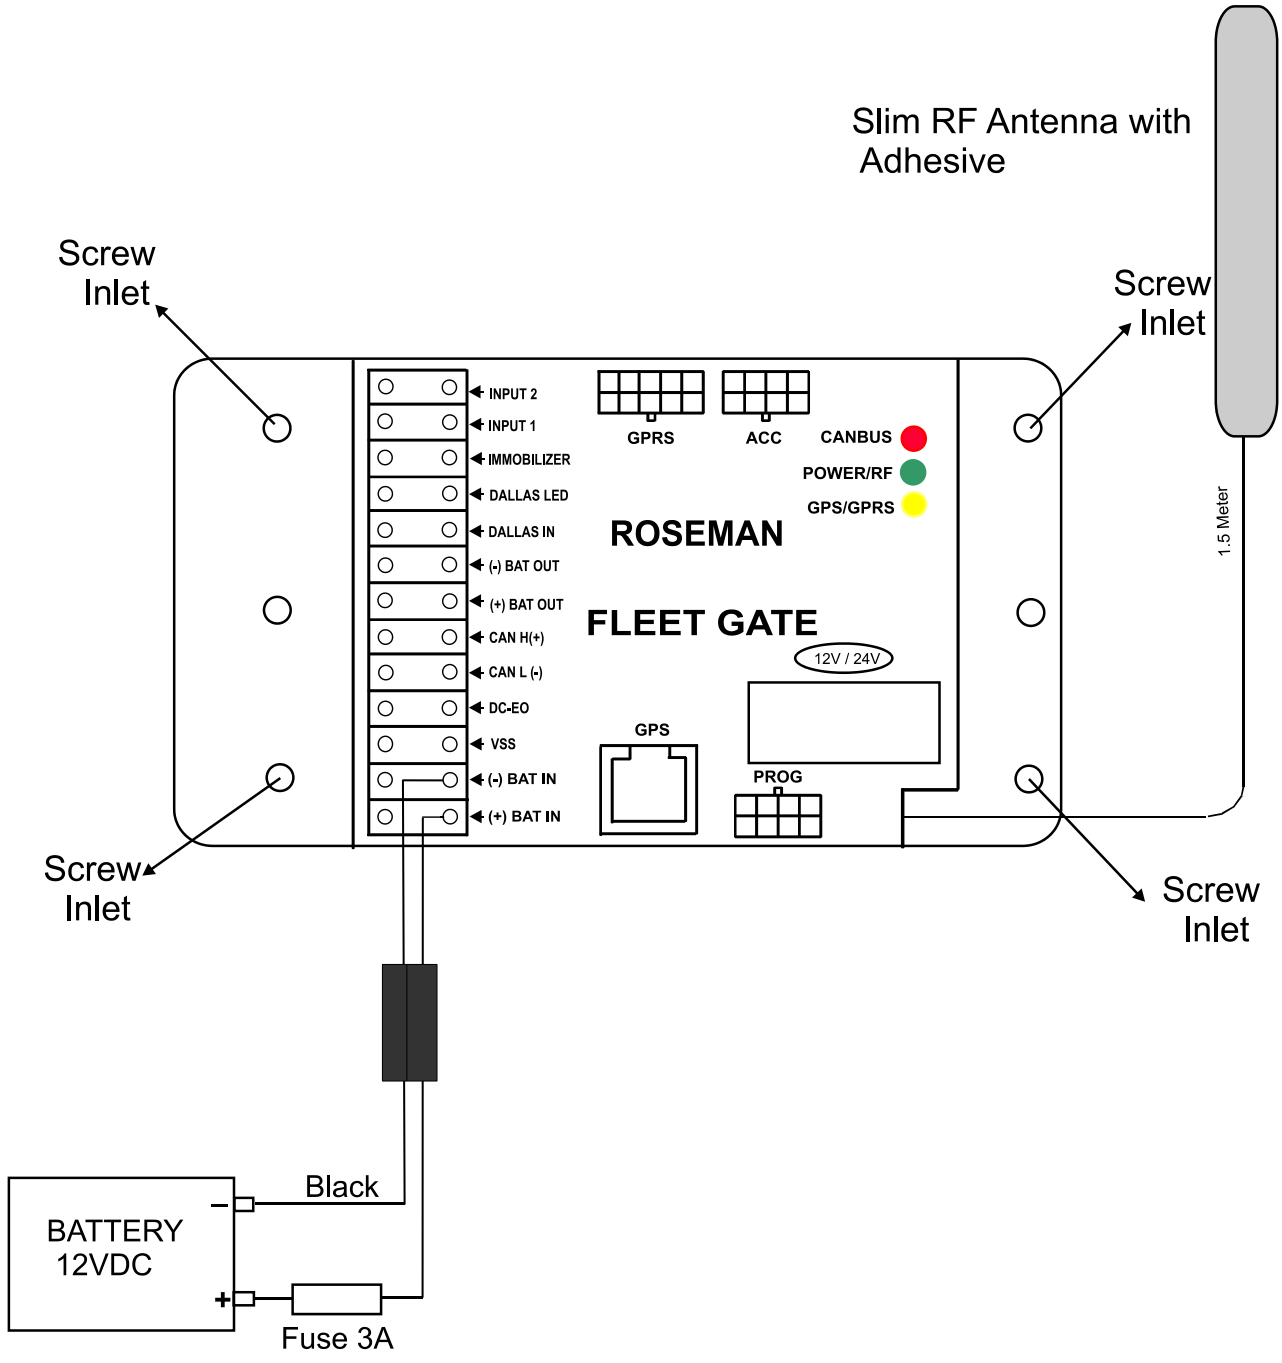

Figure 2: FG3 Wiring Diagram
2. Drill at least two 1/8" holes for the FG3 mounting. Use the FJ3 to mark the holes (refer to Figure 2: FG3 Wiring Diagram)